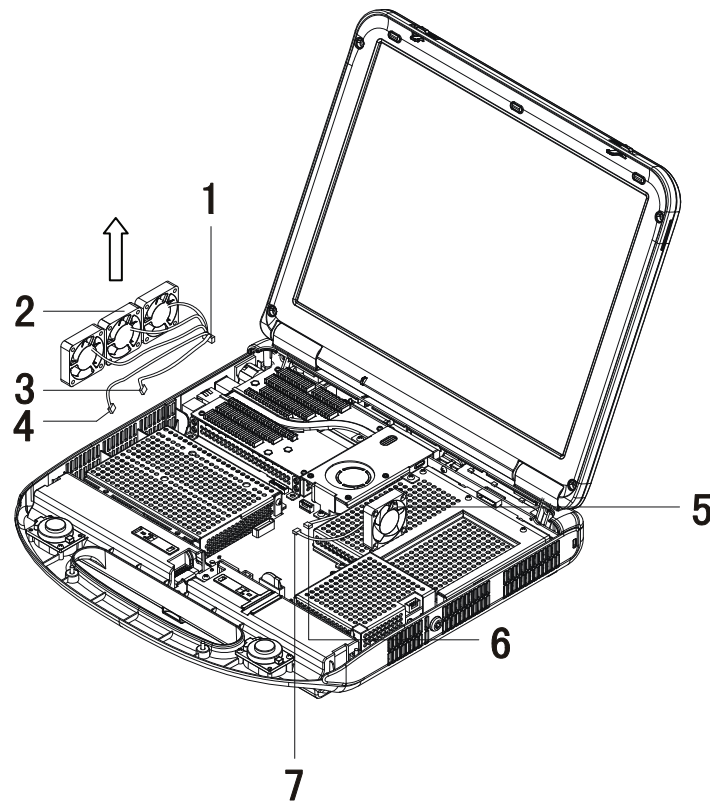

Figure 4-27 Removing System Fan
- 2) As shown in Figure 4-27, pull out connectors between the system fan, main board, and CPU fan;